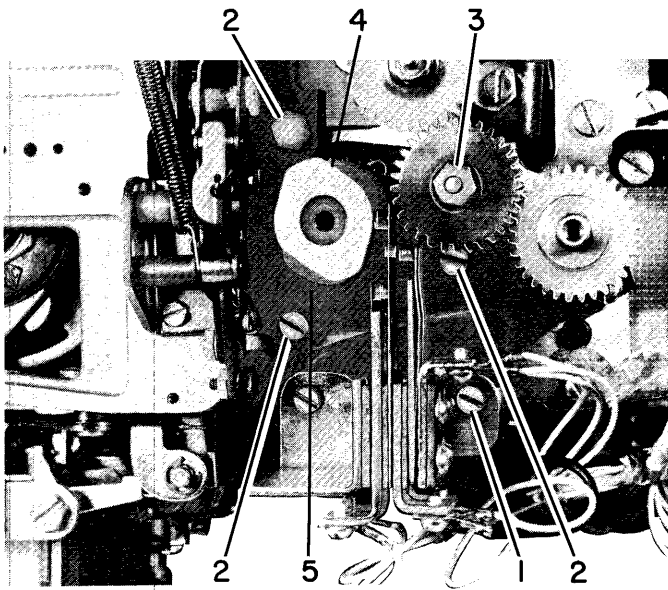
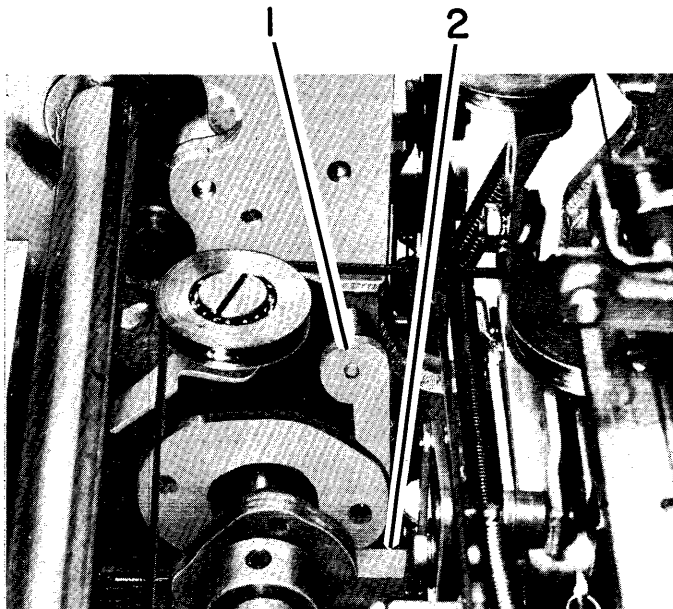

Figure 4. Cycle Clutch and Cycle Shaft Removal
Figure 5. Cycle Clutch and Cycle Shaft Removal
9. Remove the front screw from the C1 - C2 contact assembly (#1, Figure 4) and swing the assembly down out of the way of the bearing plate.
10. Remove the cycle-clutch check pawl and spring (#1, Figure 5).
11. Remove the bronze intermediate gear (#3, Figure 4).
12. Remove the three bearing-plate screws (#2, Figure 4).
13. Remove the C1 - C2 cams (#4, Figure 4) and the cycle shaft gear (behind the C1 - C2 cams).
14. Remove the bearing plate (#5, Figure 4) by prying it away from the frame (front end first) with a screwdriver and sliding it off the cycle shaft.
15. Force the positive bail down with a screwdriver (#2, Figure 5), making sure all the latches are under the bail. Insert a bristol wrench through the lower left bearing plate mounting hole (#2, Figure 4) over the top of the bail to hold it down.